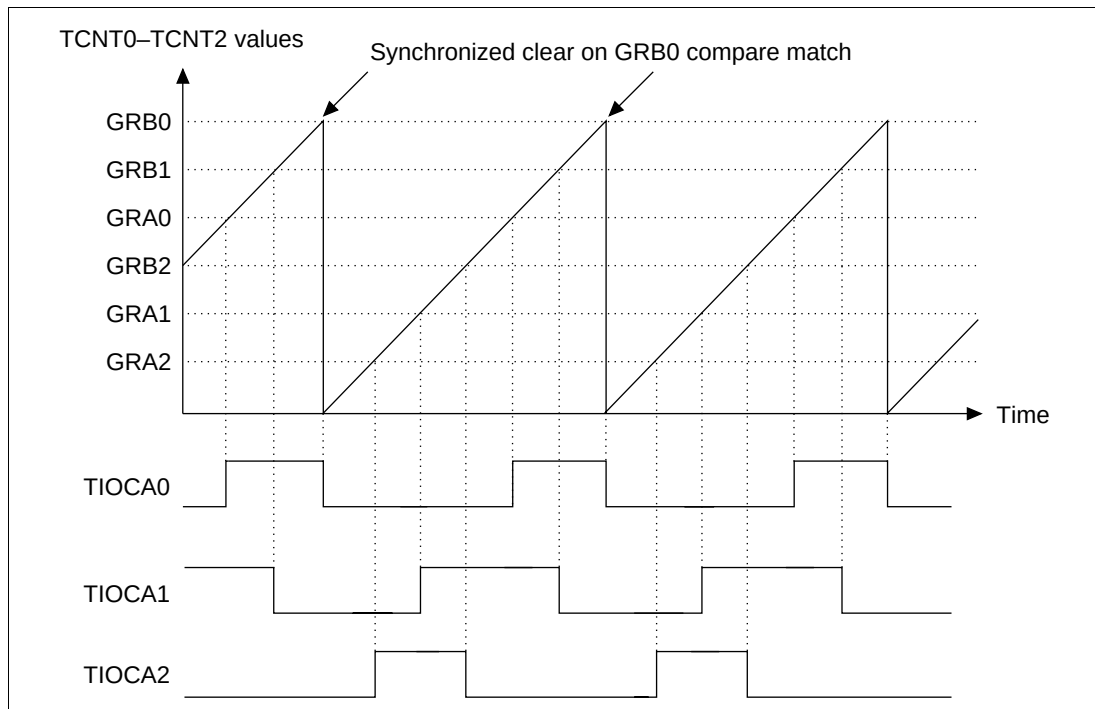

**Figure 10.27 Example of Synchronized Operation**
**Synchronized Operation:** Figure 10.27 shows an example of synchronized operation. Channels 0, 1, and 2 are set to synchronized operation and PWM output. Channel 0 is set for a counter clear upon compare match with GRB0. Channels 1 and 2 are set for counter clears by synchronizing clears. Accordingly, their timers are sync preset, then sync cleared by a GRB0 compare match, and then a three-phase PWM waveform is output from the TIOCA0, TIOCA1, and TIOCA2 pins. See section 10.4.4, PWM Mode, for details on PWM mode.